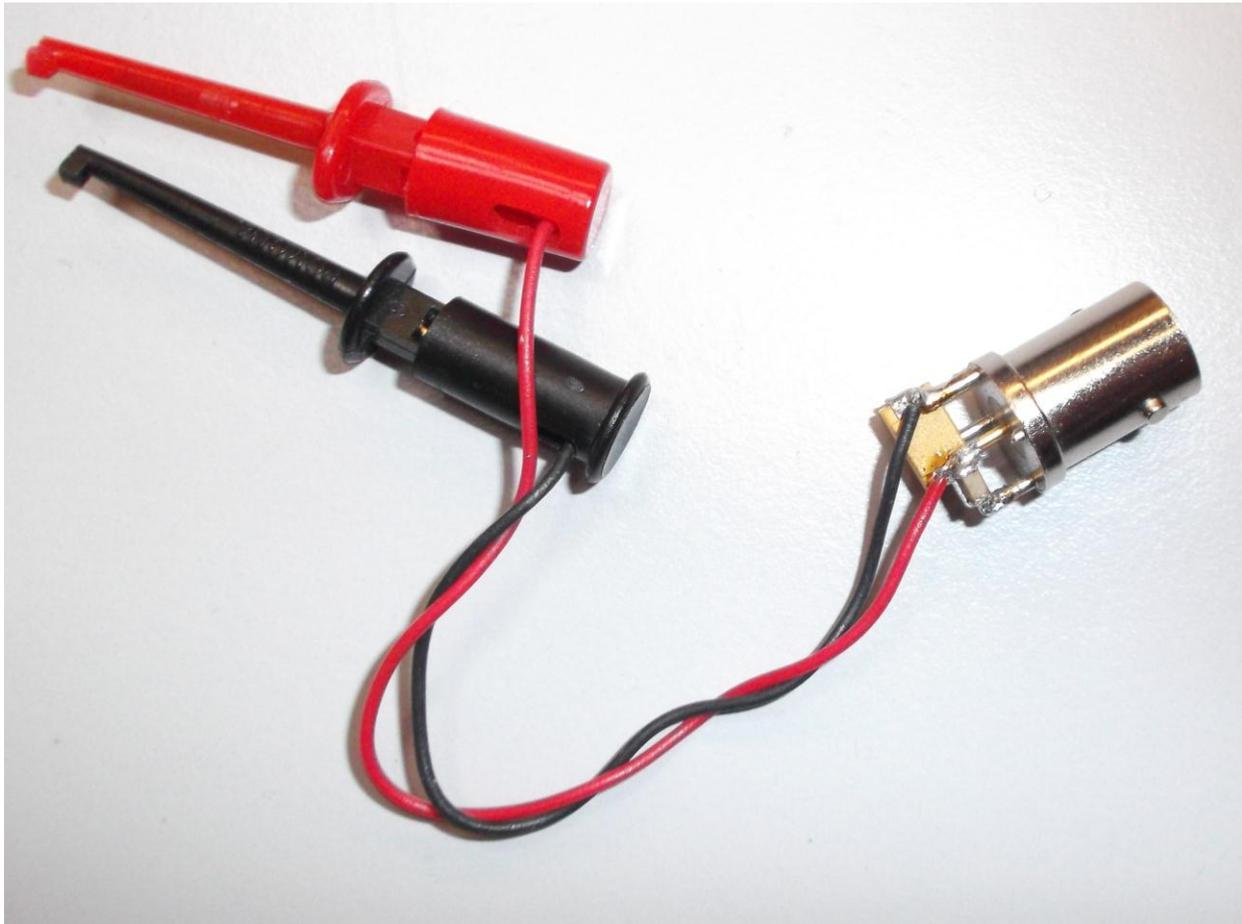

Figure5. Typical example of tip measurement technique.
1. For output ripple measurements, solder a 0.1 μ F, 50V ceramic and 4.7 μ F, 35V tantalum on a BNC adapter as shown in figure 5 below. Connect the red test lead to the +Vout output and the black test lead to the -Vout on the EVM